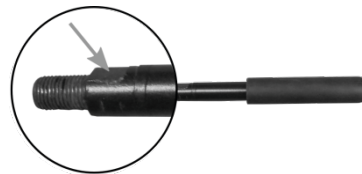

Figure 8: Spanner flats
Screw the tension lever (8) into the tension lever mount (7) of the quick locking mechanism. Turn the thread fully into the holder and tighten the tension lever extension using a wrench (the tension lever has a spanner flat with a key width of 17, see Figure 8).